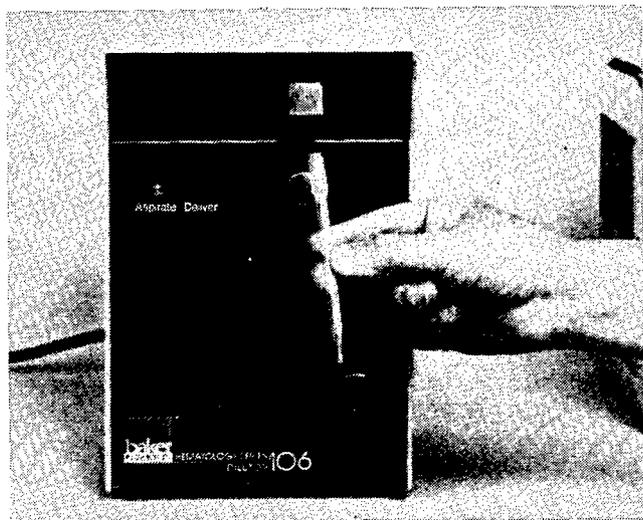

Figure 2-2.
2. Insert the large, threaded end of the probe into the probe support and turn it in a clockwise direction until it is finger tight. See Figure 2-2.